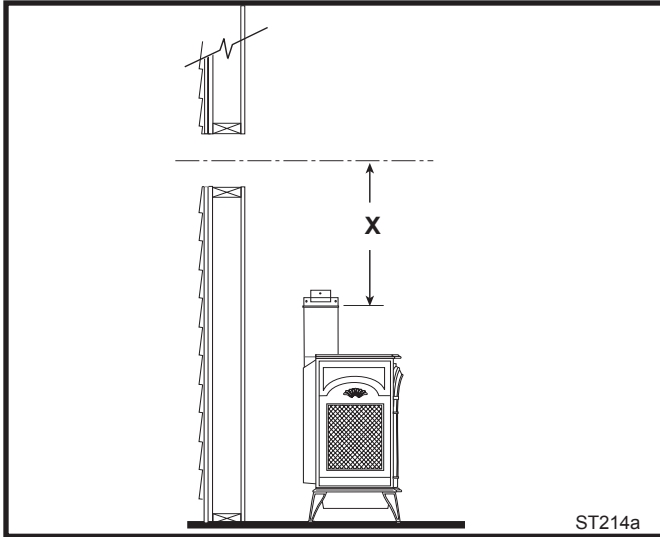

Fig. 24 Determine the vertical pipe length.
4. For CFM Vent Pipe only: If necessary, measure to determine the vertical length (X) of pipe required from the adapter pipe to the wall cutout centerline, including a 2" overlap at the joint. (Fig. 24) use a hacksaw or tin snips to trim the pipe as needed.